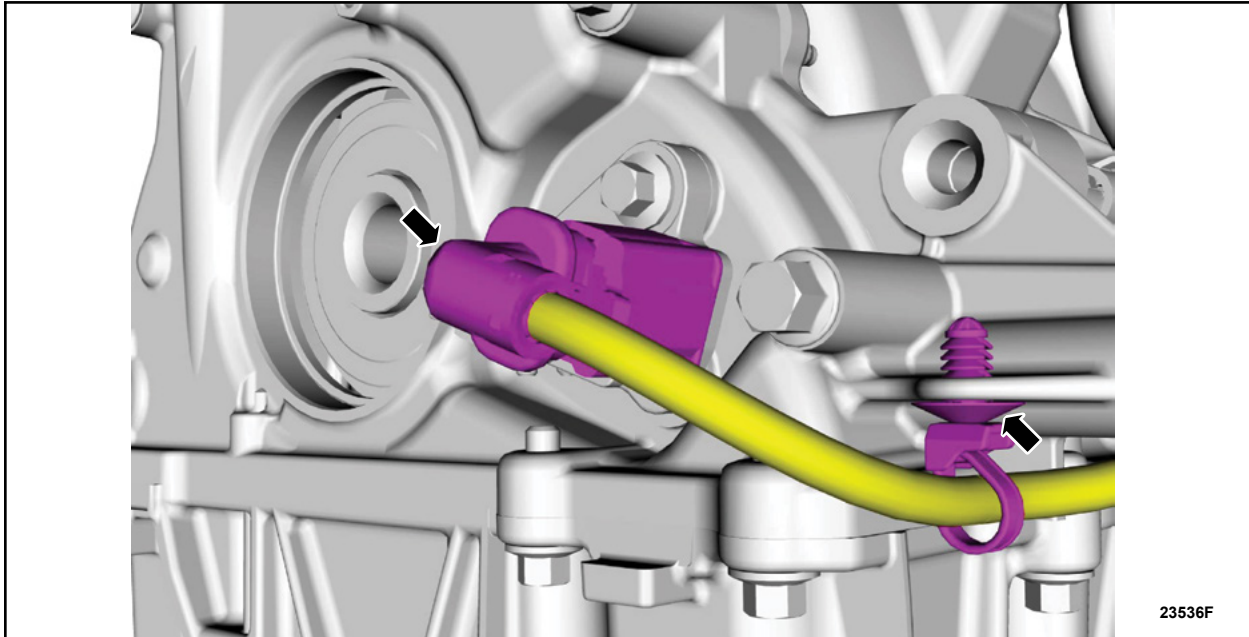

FIGURE 6
12. Disconnect the crankshaft position (CKP) sensor electrical connector. Then, detach the wiring harness retainer as shown in Figure 6.